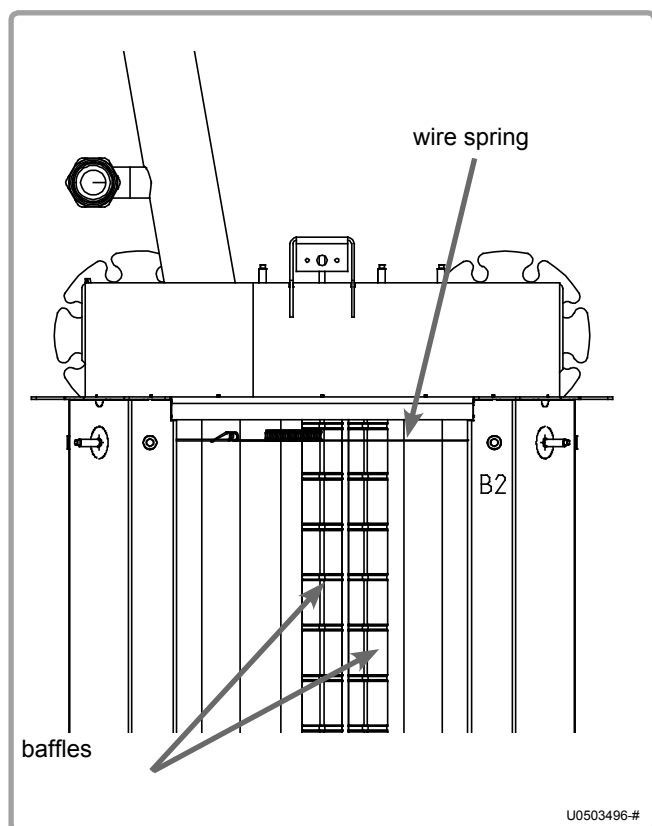

figure 47 - Refitting
- Position the clamp (the word "UP" must be visible and the inner lug must be positioned on the rear axis of the boiler - see figure 47)
- Compress by pushing downwards and rotate the tool in a clockwise direction to lock the tube (see figure 47).